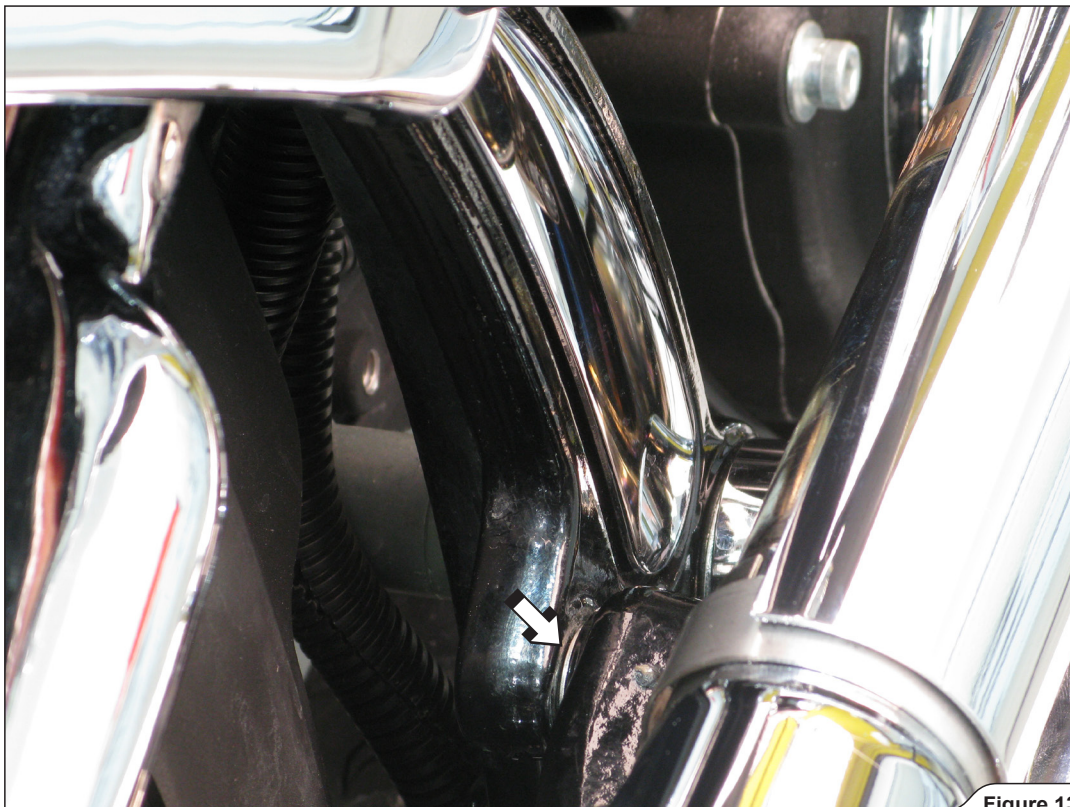

Figure 13
4. Put the marked distance washer (from Akrapovič installation kit) under the mufflers' bracket, as shown (Figure 13).